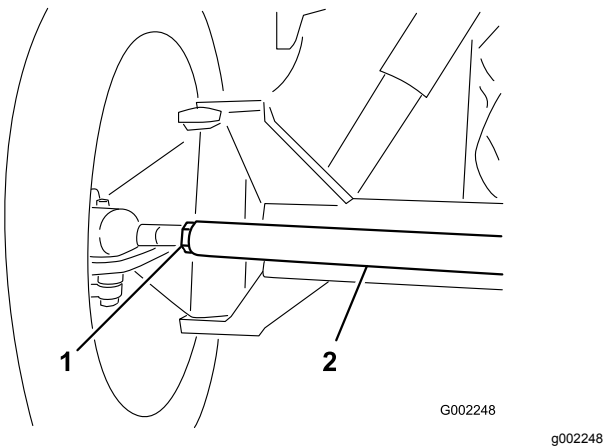

Figure 84
3. If the measurement does not fall within the specified range, loosen the jam nuts at both ends of the tie rod (Figure 84).